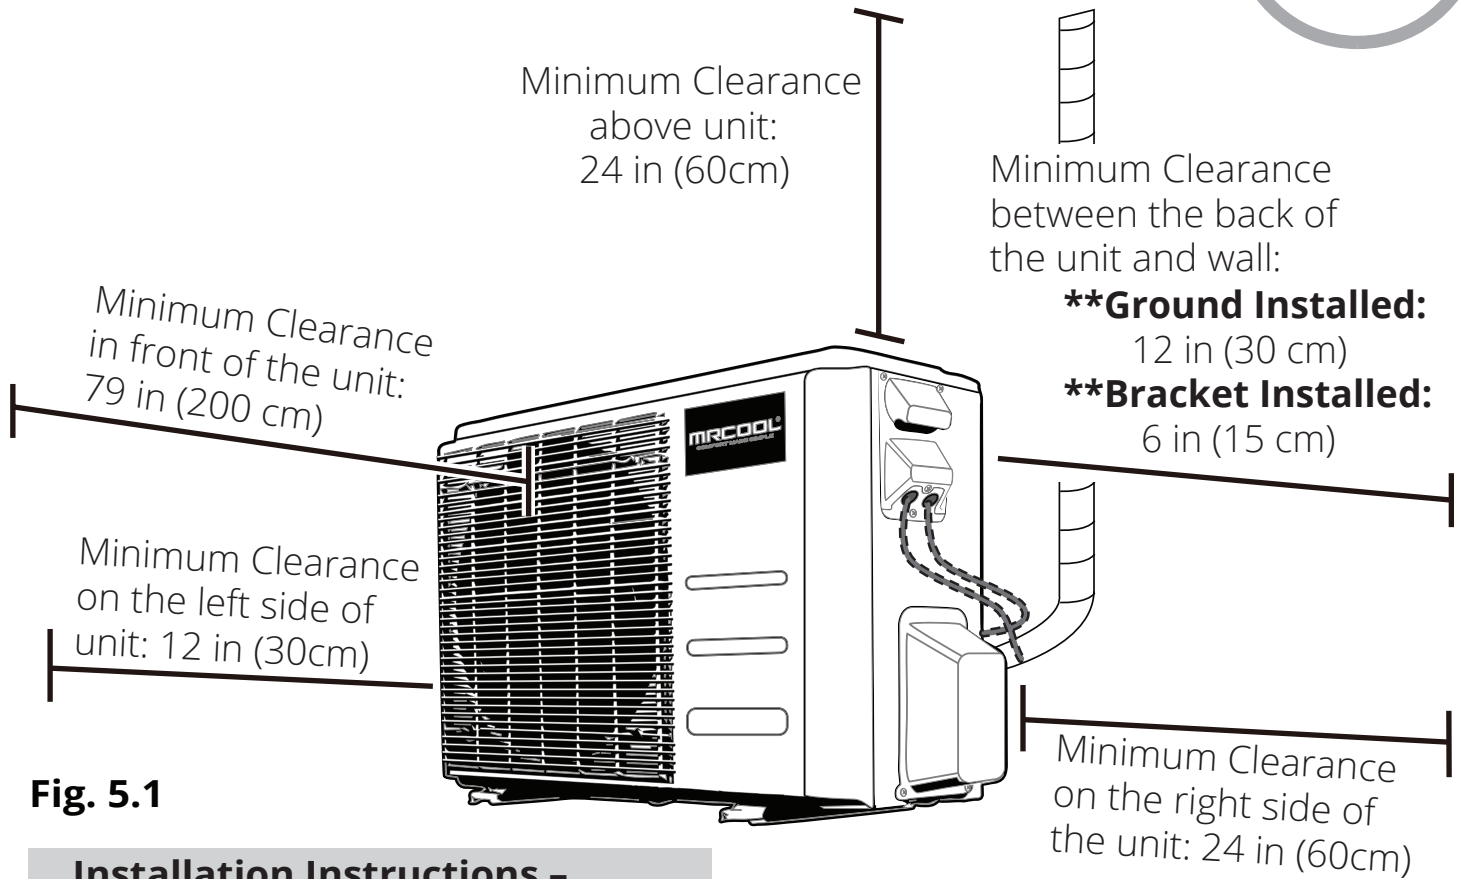

Fig. 5.1
- ☑ Meets all spatial requirements shown in Installation Space Requirements (Fig. 5.1)